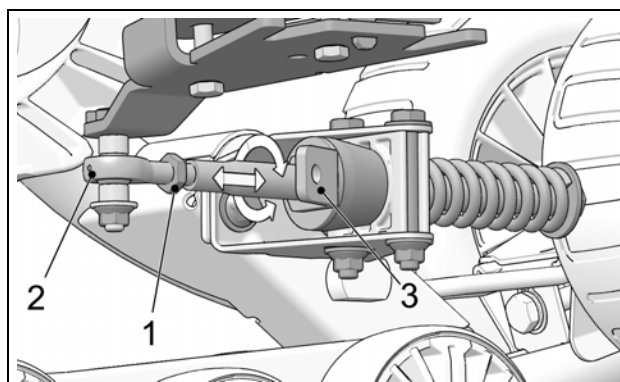

Figure 7
- Loosen jam nut (1). Adjust length of rod end (2) by rotating the steering limiter support plate on (3) the stabilizing arm. Use a 30 mm wrench to rotate support plate to obtain a perfectly centered bubble in the level. Figure 7.